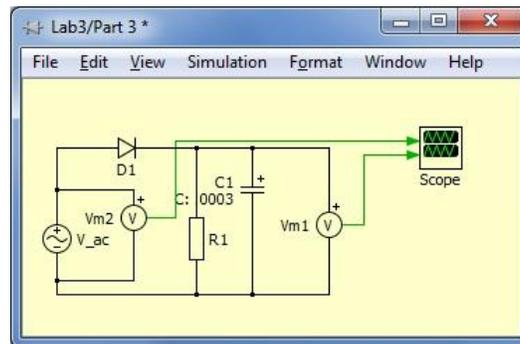

Figure 9: PLECS Circuit 3
10. Create the circuit shown in figure 9 in a new PLECS block. The circuit involves one Resistor and Capacitor in parallel. Set the resistor to $1.0\text{K}\Omega$ and the capacitor to $30\mu\text{F}$. Inside the PLECS block, place a voltage probe across the capacitor. Set the initial value of the on the capacitor to 0V . Simulate the model and record the simulated waveform.